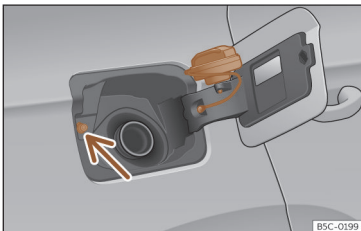

Fig. 203 Fuel tank flap with tank cap attached.
- Place it in the space on the hinge of the open flap >>> Fig. 203.
Avoid touching the fuel tank flap lock button >>> Fig. 203 (arrow). The system will interpret that you have finished and cannot continue refuelling. Press the  button on the driver's door again to continue.